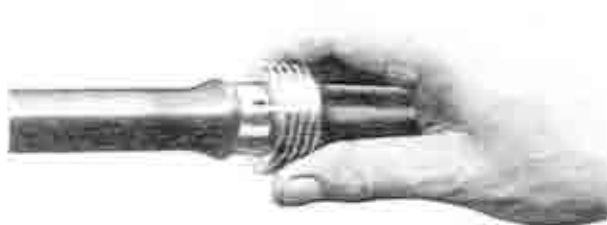

Fig. 7-26 Installing of speedometer drive gear
25. Install the speedometer drive gear with the steel ball onto the main shaft and secure it with the snap ring, as shown in Fig. 7-26.